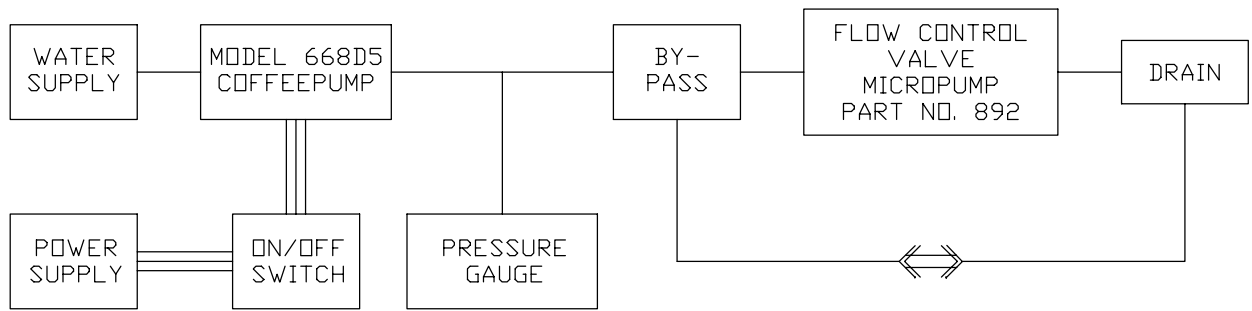

Figure 3
2.1.5 The following test stand, Figure 3, or equivalent, will be required to check the operation of reassembled units.